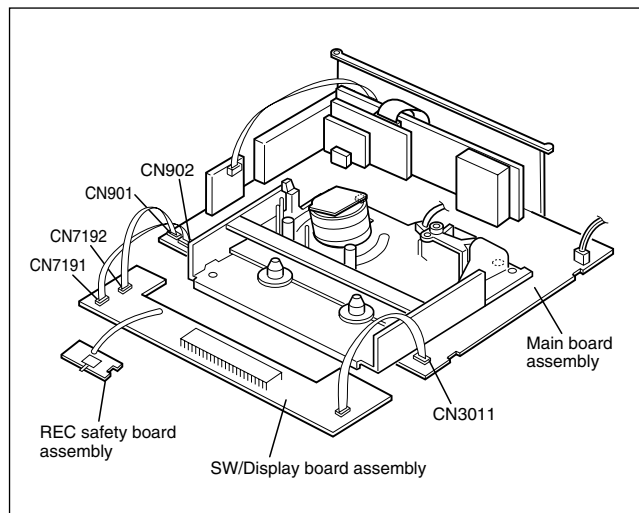

Fig. 1-4-3
- (8) Place the SW/Display board assembly and REC safety board assembly on the front side of the Mechanism and Main board assemblies which was removed at the step (6), then connect the flat wires into CN3011, CN901 and CN902 of the Main board assembly. (Refer to Fig. 1-4-3.)
1.4.3 Cassette loading and ejection methods in the "SERVICE POSITION"(See Fig. 1-4-3).
- (1) Insert a cassette halfway in the Cassette holder assembly.
- (2) Set the switch on the REC safety board assembly to ON (by pressing the switch).
- (3) As soon as the cassette starts to be loaded, set the switch on the REC safety board assembly to OFF (by releasing the switch).
- (4) Now the desired operation (recording, playback, fast forward, rewind, etc.) is possible in this status (the status shown in Fig.1-4-3).
- When performing diagnostics of the tape playback or the recording condition in the "SERVICE POSITION", enter the desired mode before turning the set upside down, and do not change the mode when performing diagnostics while the set is placed upside down. If you want to switch the mode, turn the set to the normal position (the status shown in Fig.1-4-3).
- (5) The switch on the REC safety board assembly does not have to be operated when ejecting a tape. But be sure to turn the set to the normal position before ejecting the tape.